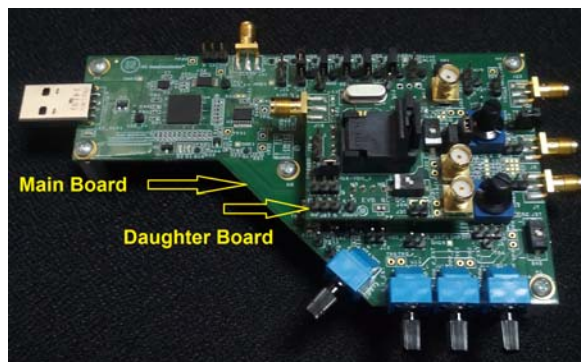

Figure 2. Top View of Main Board with DFN8 Daughter Board
- Place NB3x60113G in the DUT socket U2. For pin 1 alignment refer to Figure 2